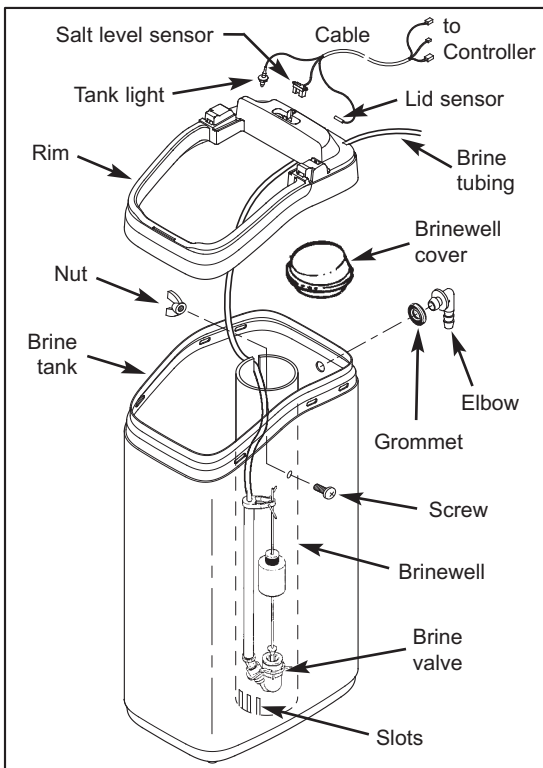

FIG. 4
- Snap the rim into place on the brine tank (See Fig. 4).
- Lower the brine valve into the brinewell. Push the tubing into the brinewell top slot (Fig. 4) and route it out through the hole in the back of the rim.
f. Locate the brine tank cable, one end of which is shipped plugged into the back of the electronic controller (PWA). At the loose end of this cable, identify the tank light, salt level sensor and cover sensor. Insert each of these three items into their corresponding slots in the rim, as shown in Figure 4.